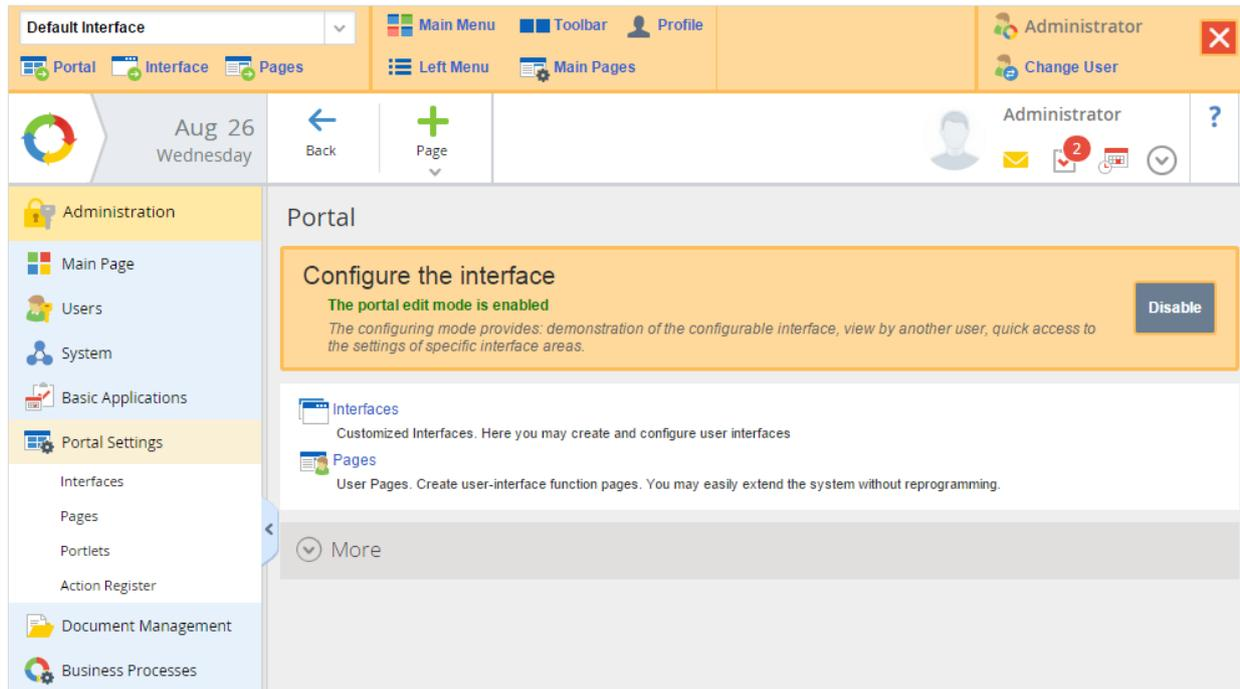

Fig. 195. The visual interface editor is enabled
After you have enabled the **Visual Editor**, an orange setup panel will appear at the top of the page (Fig. 195). To disable the interface setup mode, click the **Disable** button or the red cross icon on the **Visual Editor** panel.
- on the panel of the **Visual Editor**, select **Main Menu** or **Left Menu** (Fig. 195);